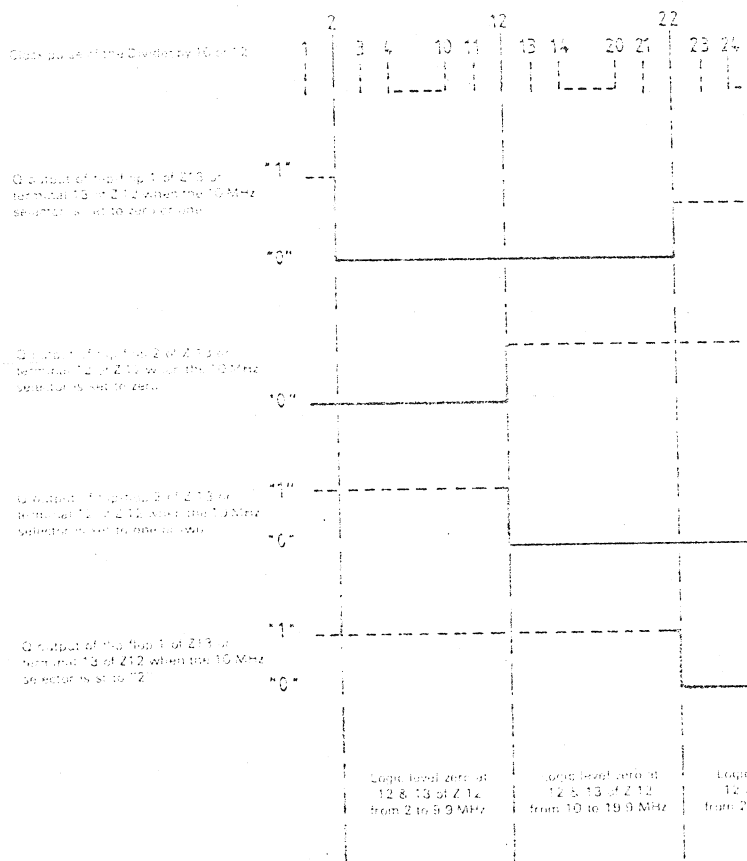

Fig. 6 Enabling Timing Diagram
- 64 The clock signal from the divide by 10 or 12 circuit is applied to pin 14 of module Z11. The number of clock pulses required to produce a logic '1' at each output of module Z11 is shown on Figure 6.
- 67 Enabling timing diagram: Figure 6 below, shows the logic levels of the Q and Q outputs of Z12, and hence the inputs 12 and 13 of the NOR gate of Z12 for each position of the 10 MHz frequency selector switch.